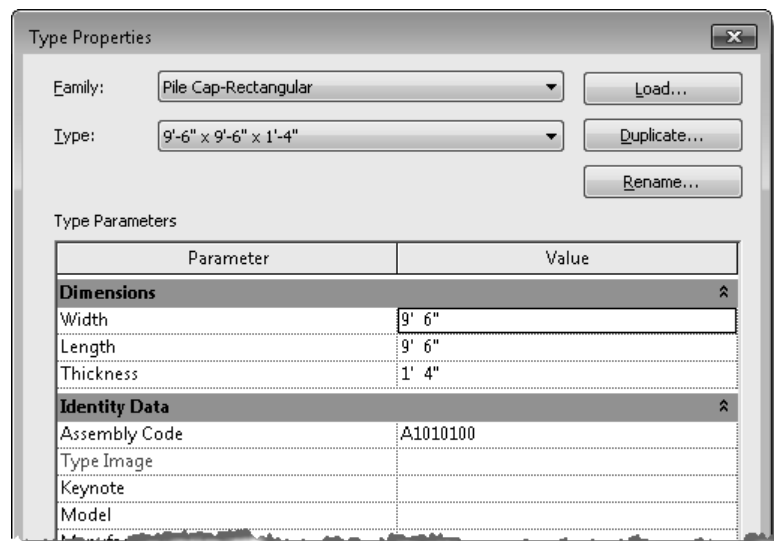

FIGURE 7-5.8 Isolated footing type properties
37. Adjust the *Width*, *Length* and *Thickness* parameters accordingly; make them match the new type name you just created. See **Figure 7-5.8**.